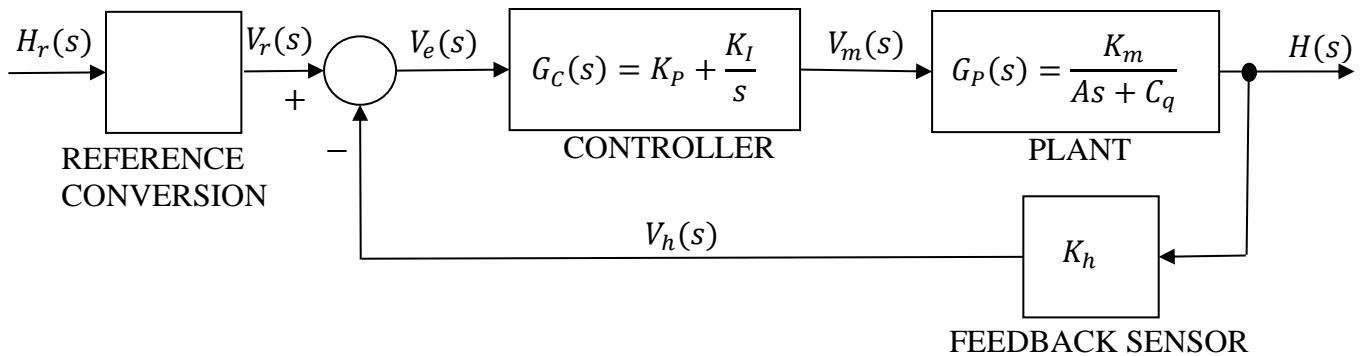

Figure 6 – Block diagram for the closed loop system
The closed loop system can be represented by a block diagram of the form shown in Figure 6. The feedback signal is the height sensor voltage, which must be compared to a reference voltage,  $V_r$ , to form the error voltage,  $V_e$ . The controller acts on the error voltage to produce a voltage supplied to the pump which aims to reduce the error (i.e. control the water height  $h$  towards the desired reference height  $h_r$ )
1. What transfer function needs to go in the “Reference Conversion” block in Figure 6 to ensure the correct reference voltage is compared to the water level sensor voltage?